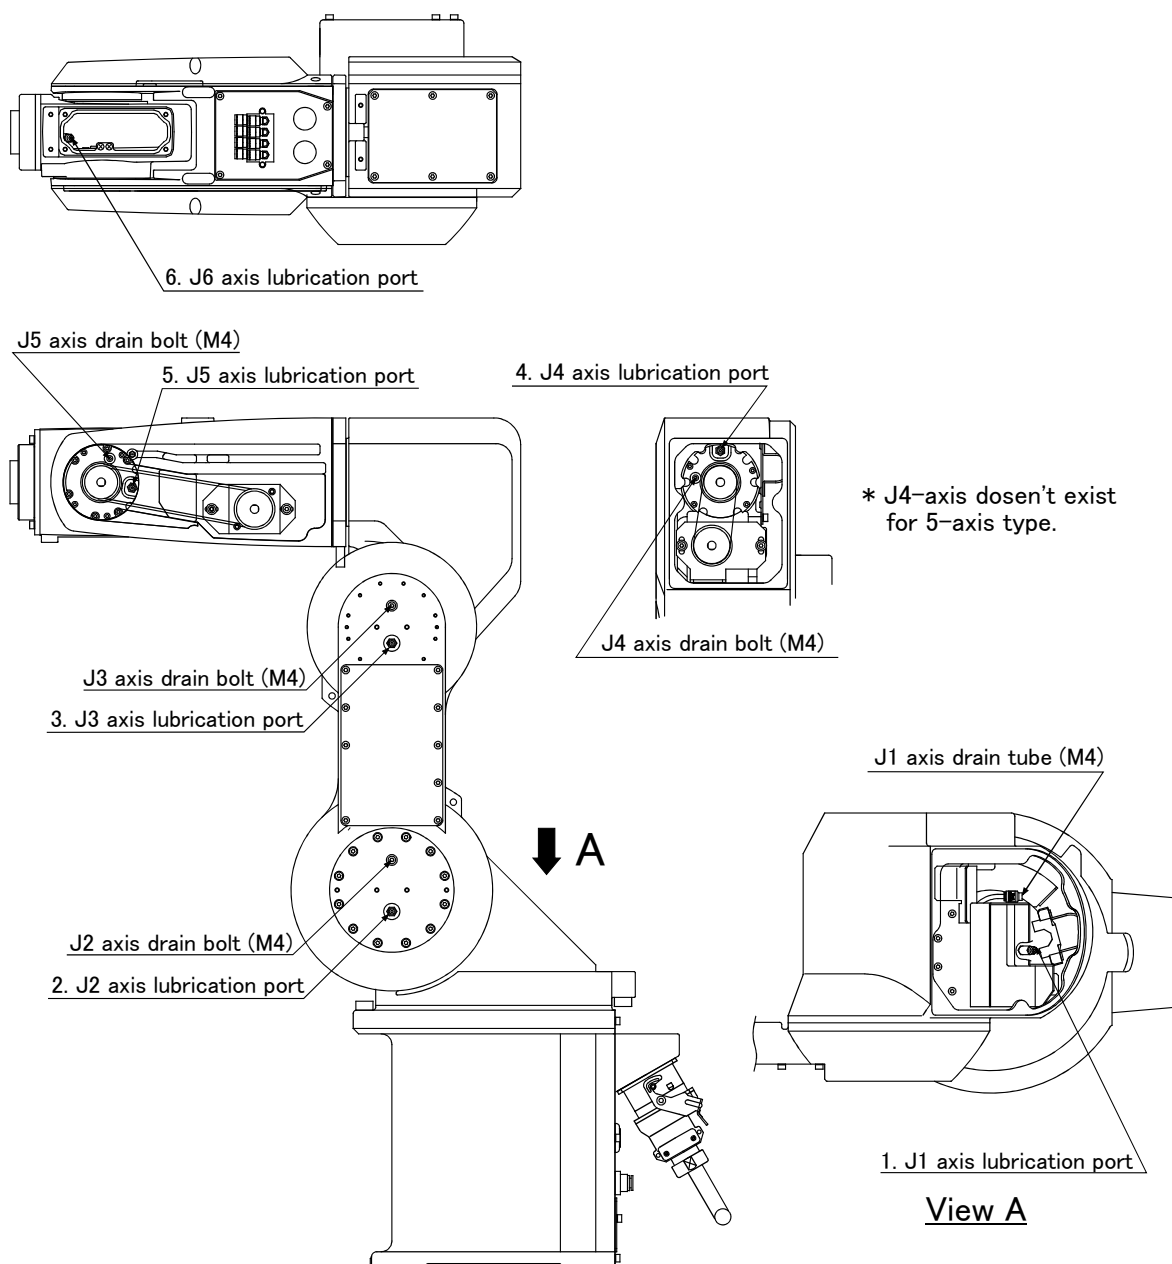

Fig.5-9 : Lubrication positions
- The numbers in the correspond to the supply positions in Fig. 5-9.
(2) Lubrication method
- 1) Set the robot to the posture shown in Fig. 5-9.